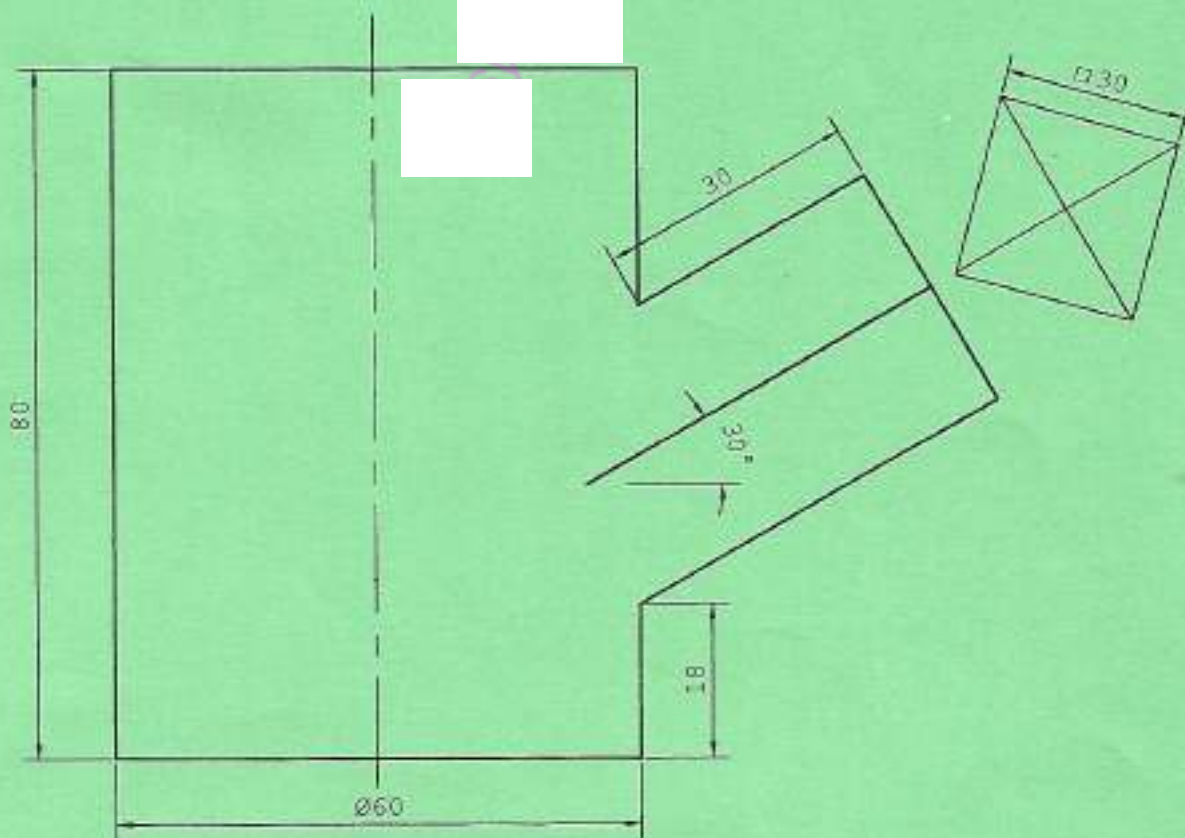

Fig 4
4. Figure 4 shows the intersection of a cylinder and a square pipe. Copy the given views and: